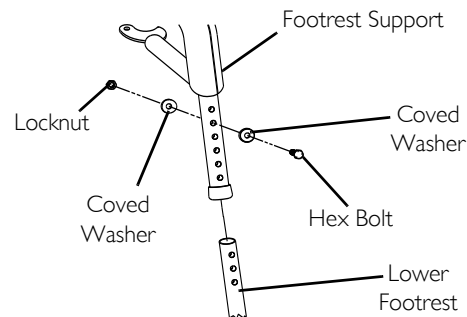

FIGURE 2 Footrest Height Adjustment - 70° and PW93
3. Remove the mounting screw, washers and locknut that secure the lower footrest assembly to the upper footrest support (FIGURE 2).